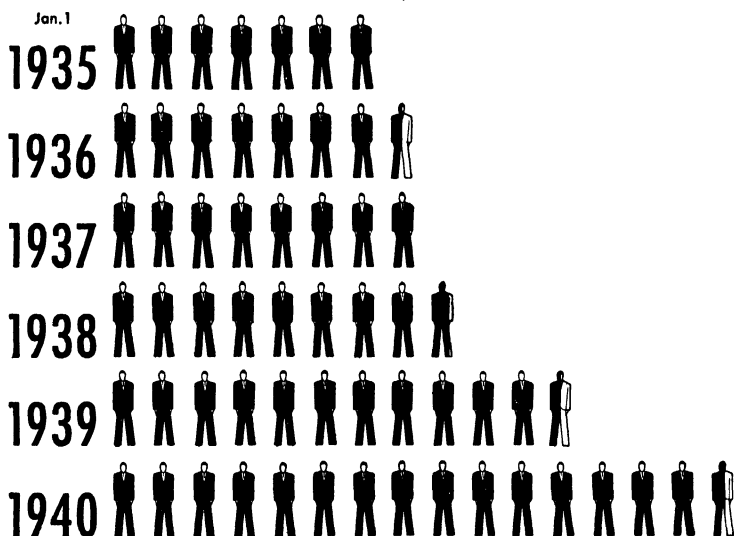

Fig. 142.—(Courtesy of Aviation.)
1. Draw up a table of approximate data from the pictograph, in Fig. 142.